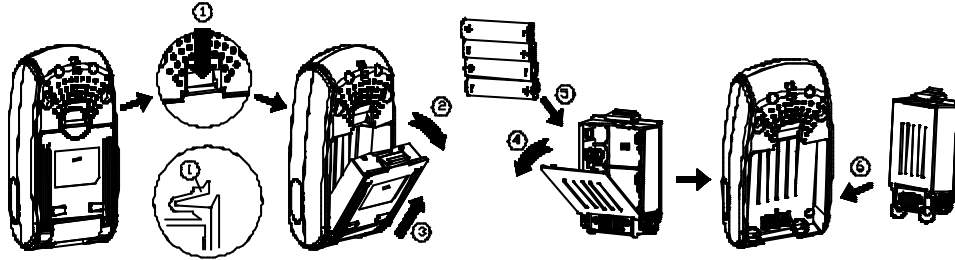

Fig. 10
1. Remove the power cavity from the rear of the Monitor. (Fig. 10)
2. Open the battery compartment cover and fit 4 AA-size batteries, following + and - signs as indicated on the inside battery compartment. (Fig. 10)
3. Close the battery compartment cover and refit the power cavity in place. (Fig. 10)